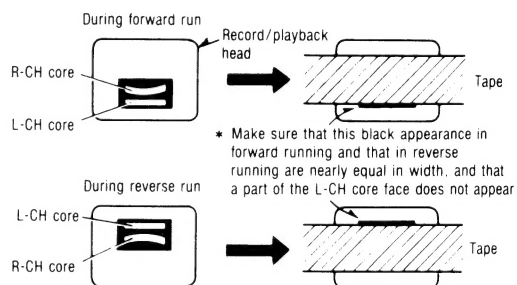

Fig. 4
4. Install a test tape (tape with mirror: QZZCRD) on the recorder; place the recorder in the FORWARD PLAY mode. Make fine adjustments of the erase head height as necessary, to attain on the record/playback head face the tape position shown in fig. 4.
5. Run the tape in the forward play mode and check it for zigzag running. (Shown in fig. 4) If zigzag tape running occurs, repeat step 4.
7. Repeat steps 5 and 6 two or three times and verify that the tape position shown in fig. 4 is ensured.